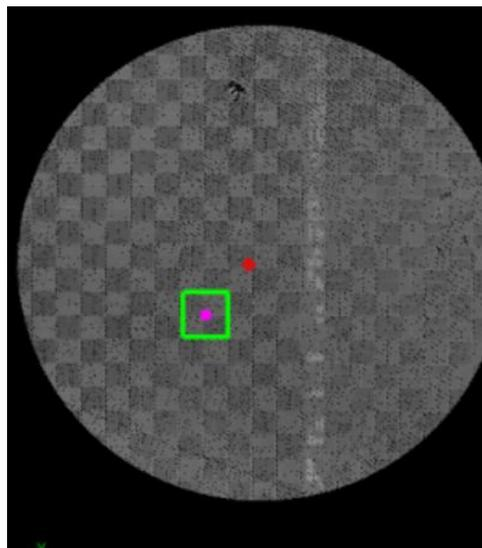

Figure 3-83 Fitting a checkerboard target
- Fitting a checkerboard target: select the center point position for the checkerboard grid points (Figure 3-83).